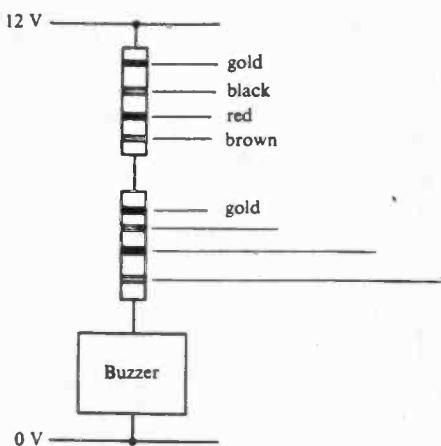

Fig. 1
Fig. 1 shows a buzzer in series with a pair of resistors.
- (b) The buzzer is rated at 6 V. When connected to a 12 V supply, it must have a resistance of $60\ \Omega$ in series. What is the value of the unlabelled resistor of Fig. 1? [1]
- (e) Draw on Fig. 1 a voltmeter which measures the potential difference across the buzzer. [2]